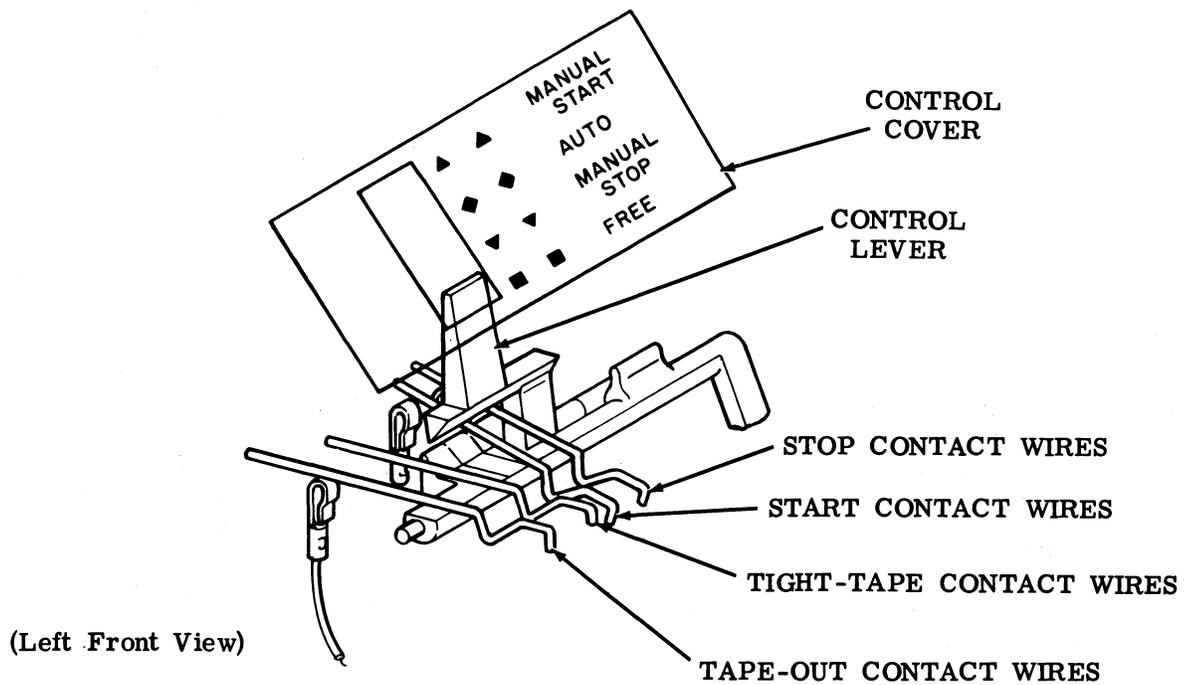

Figure 20 - Control Lever in FREE Position
**D. FREE Position (Figure 20)**